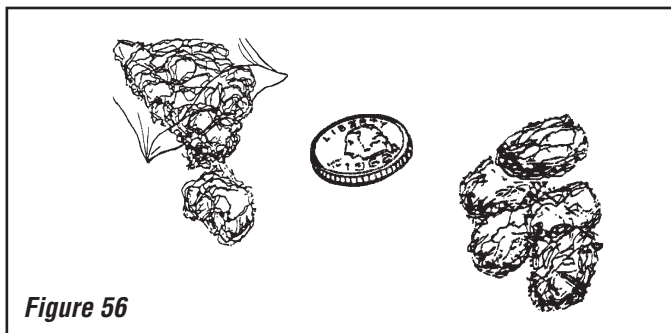

Figure 56
5. **Placement of Glowing Embers** - Separate the Embers (rockwool) into pieces about the size of a quarter (see **Figure 56**). Keep the pieces fluffed up, not matted. Distribute these pieces over the surface of the burner, as shown in **Figure 57**. Do not use more than is necessary. Ensure that the main burner ports remain uncovered by the ember material.